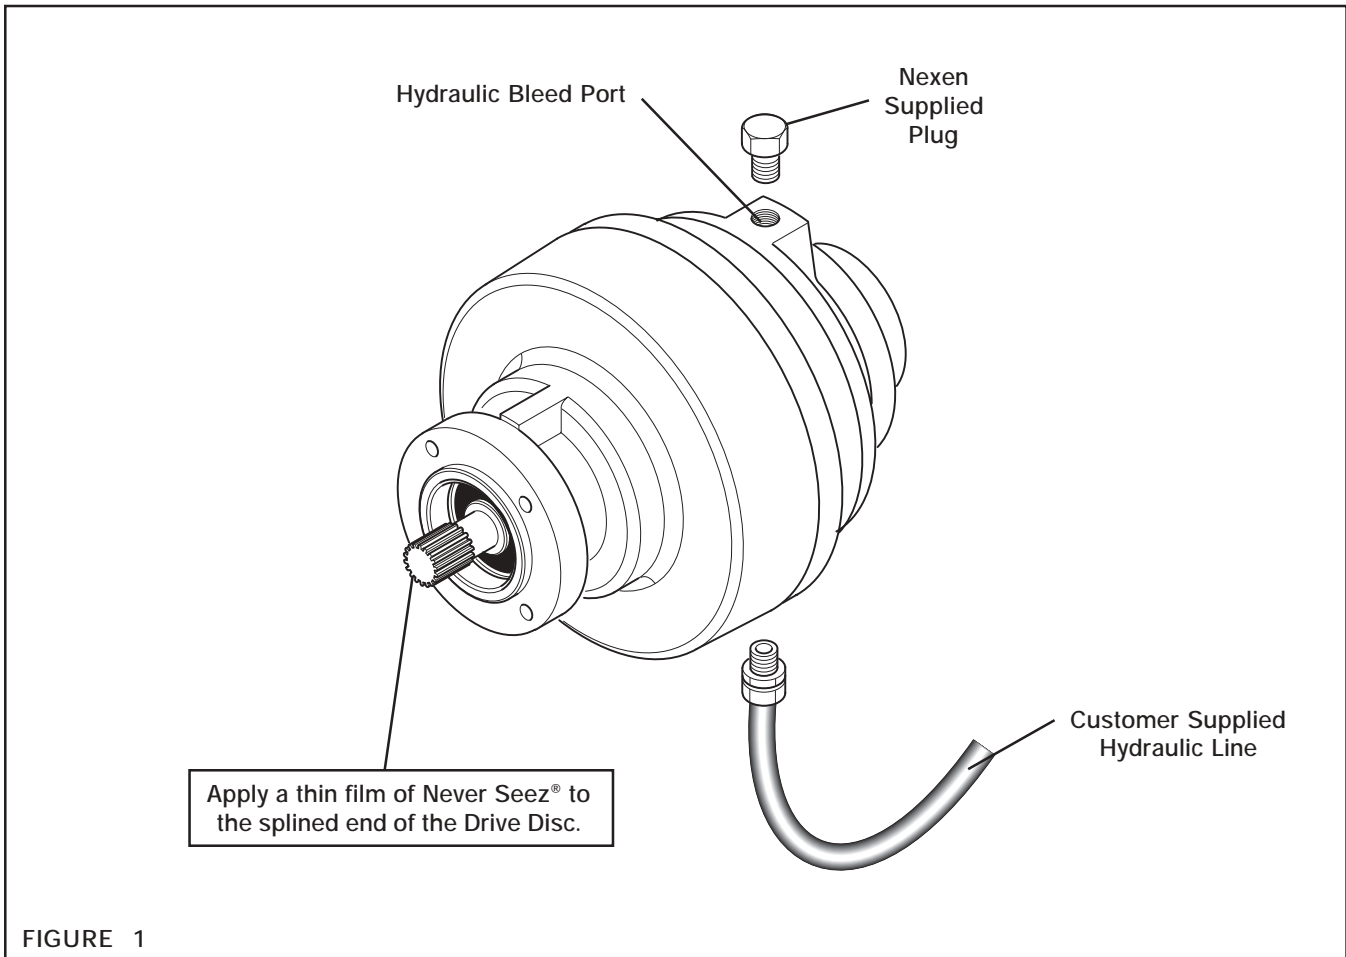

FIGURE 1
1. Apply a thin film of Never Seez® to the splined end of the Drive Disc (See Figure 1).
4. Attach a customer supplied #6 or greater hydraulic pressure line to the hydraulic port of the Hydraulic Clutch/Brake (See Figure 1).
5. Remove the Plug (located in a vertical position on a properly mounted Hydraulic Clutch/Brake) (See Figure 1).